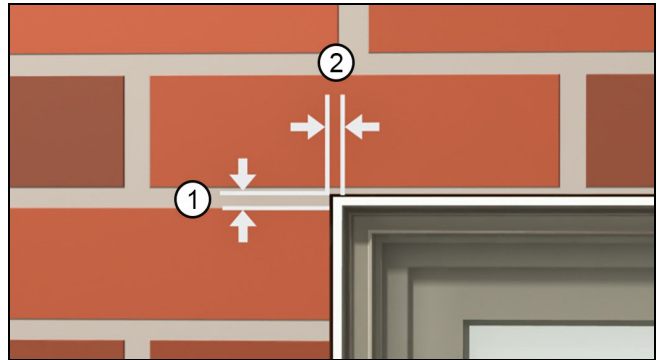

Figure 3
3. Masonry openings (MO) should be 1/2" (13) wider than the outside measurement of the frame or casing and 1/4" (6) higher than the outside measurement of the frame or casing. See Figure 3.